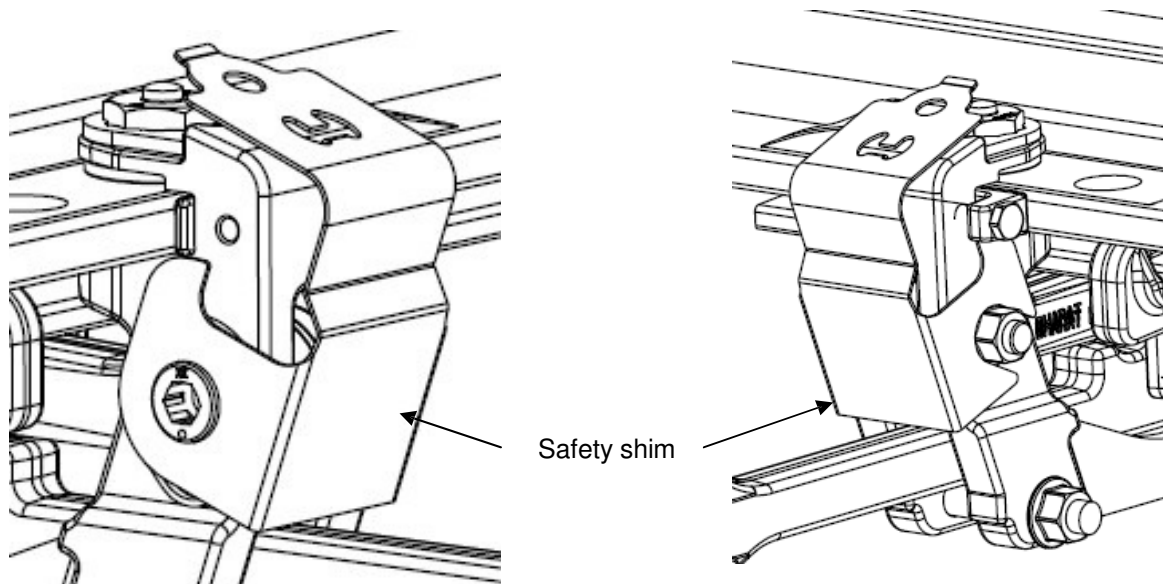

Fig. 11 Assembly of safety shim
- Side openings to snap over the head of the eccentric bolt and the flange of the safety nut (Avoids losing fixing shim, eccentric bolt and safety nut; fig. 11)